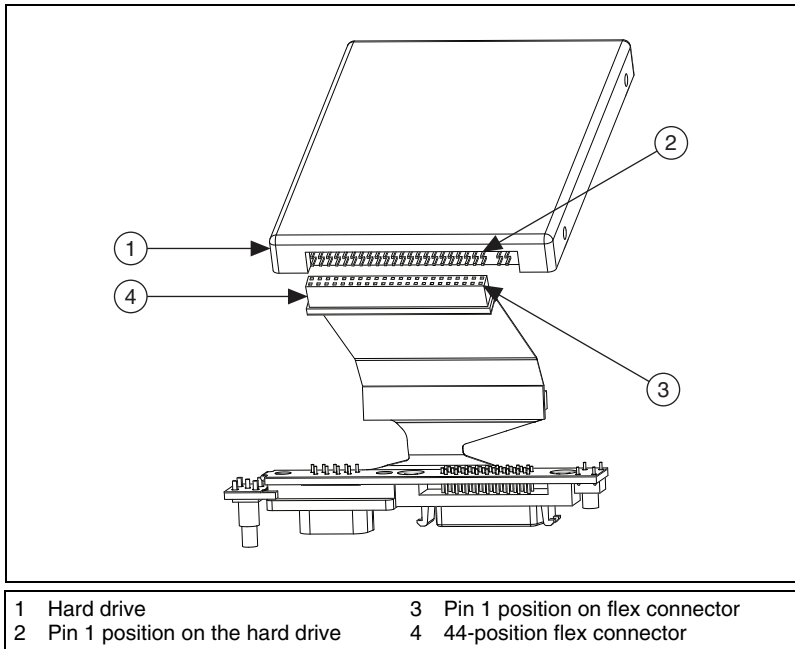

Figure 3. Pins on the hard drive and flex connector
3. Align the pin 1 position of the 44-pin flex connector with the pin 1 position of the hard drive as shown in Figure 3.
Caution Be careful in aligning the pin 1 positions of the hard drive and the flex cable. The hard drive has four extra pins separated from the others. These pins are for switch options, and connecting the flex cable to them could damage the hard drive. These pins are pointed out in Figure 3.